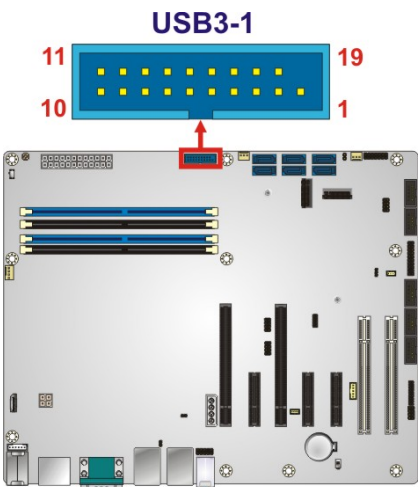

Figure 3-32: USB 3.0 Connector Location
- CN Location: See Figure 3-32